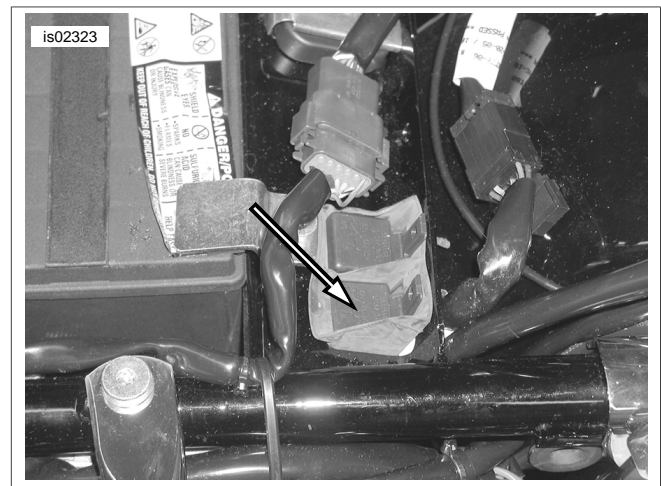

Figure 6. Key Switch Ignition Relay Location
17. See Figure 6. Remove the **key switch ignition relay** from the rubber relay holder.